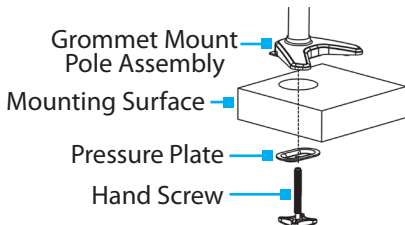

Figure 5
12. Insert the **Hand Screw** through the **Pressure Plate** and up into the **Grommet Mount Pole Assembly**. (Figure 5)